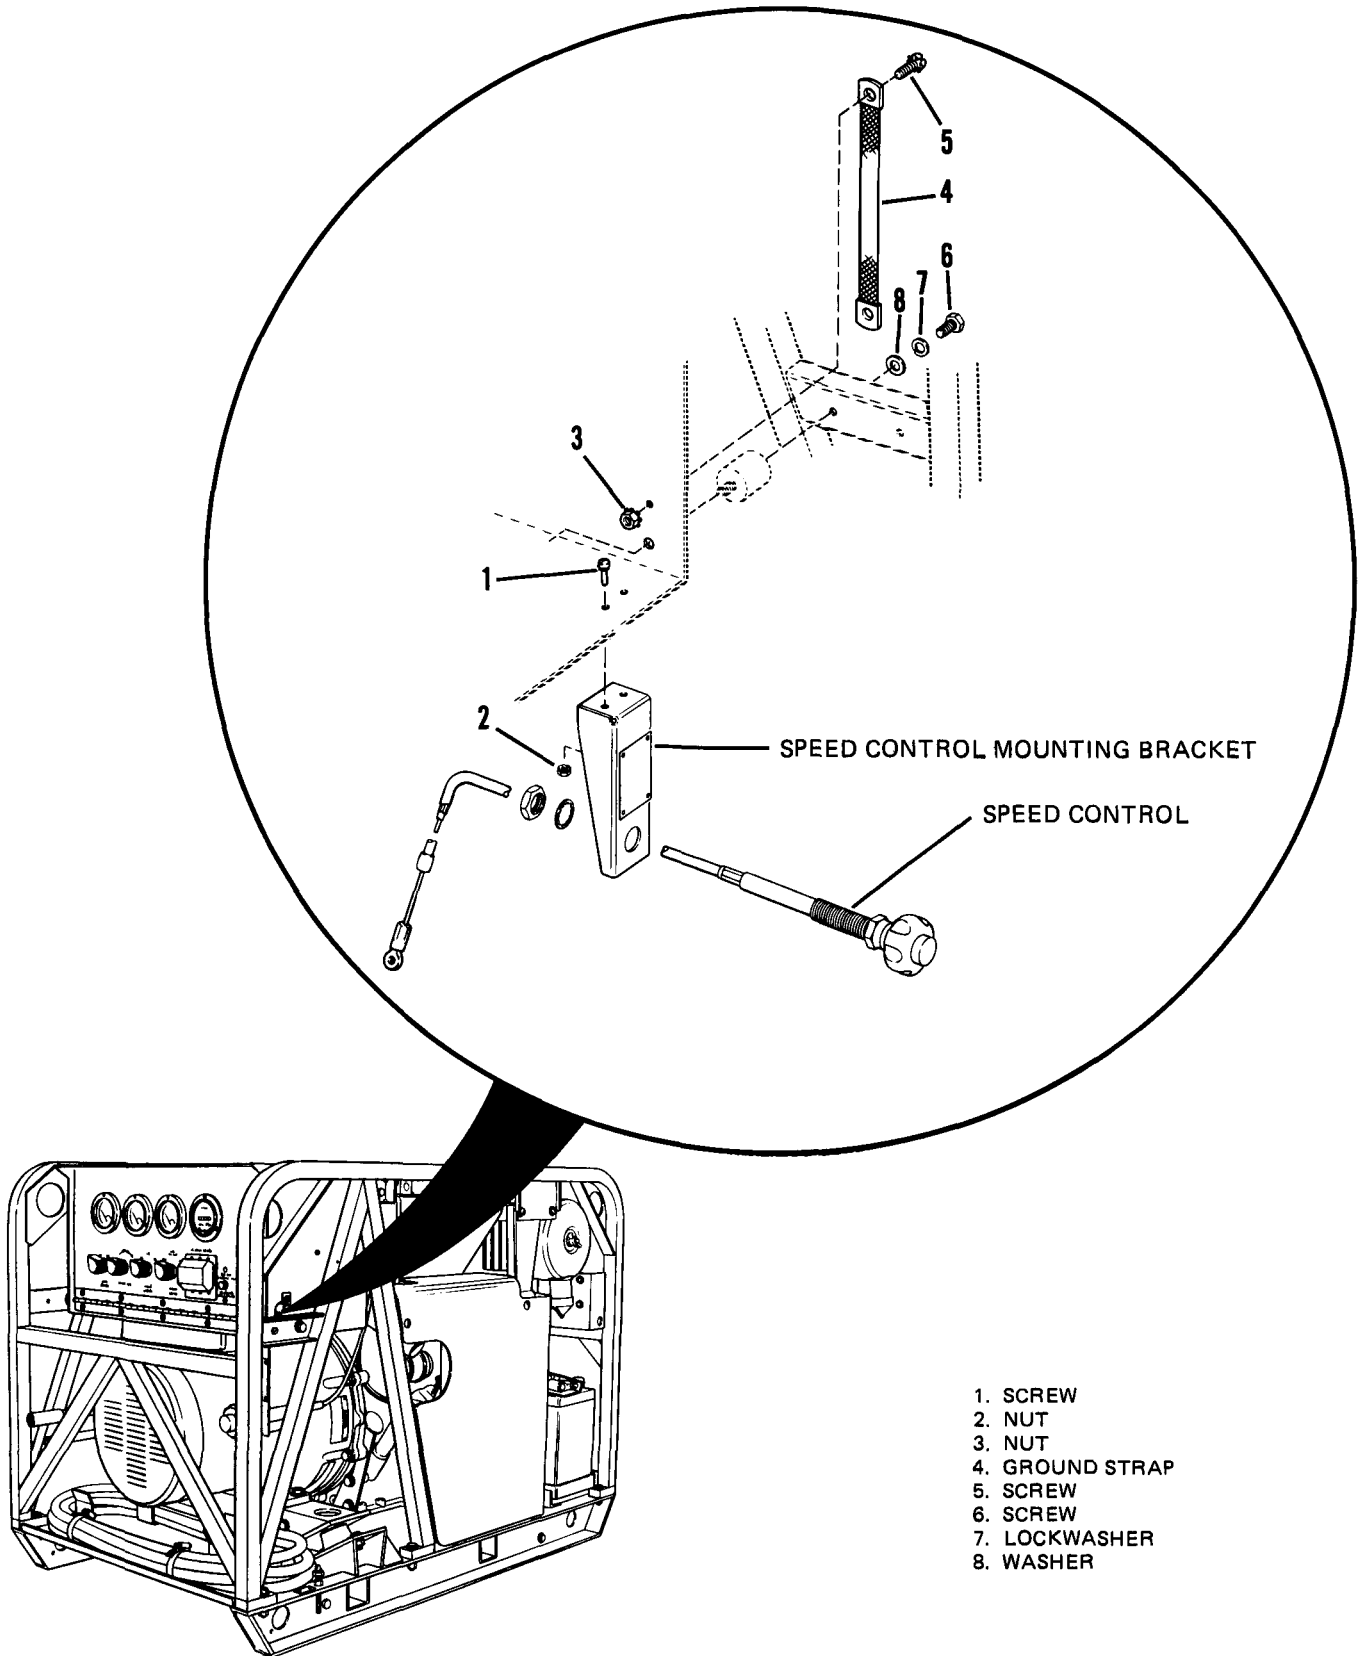
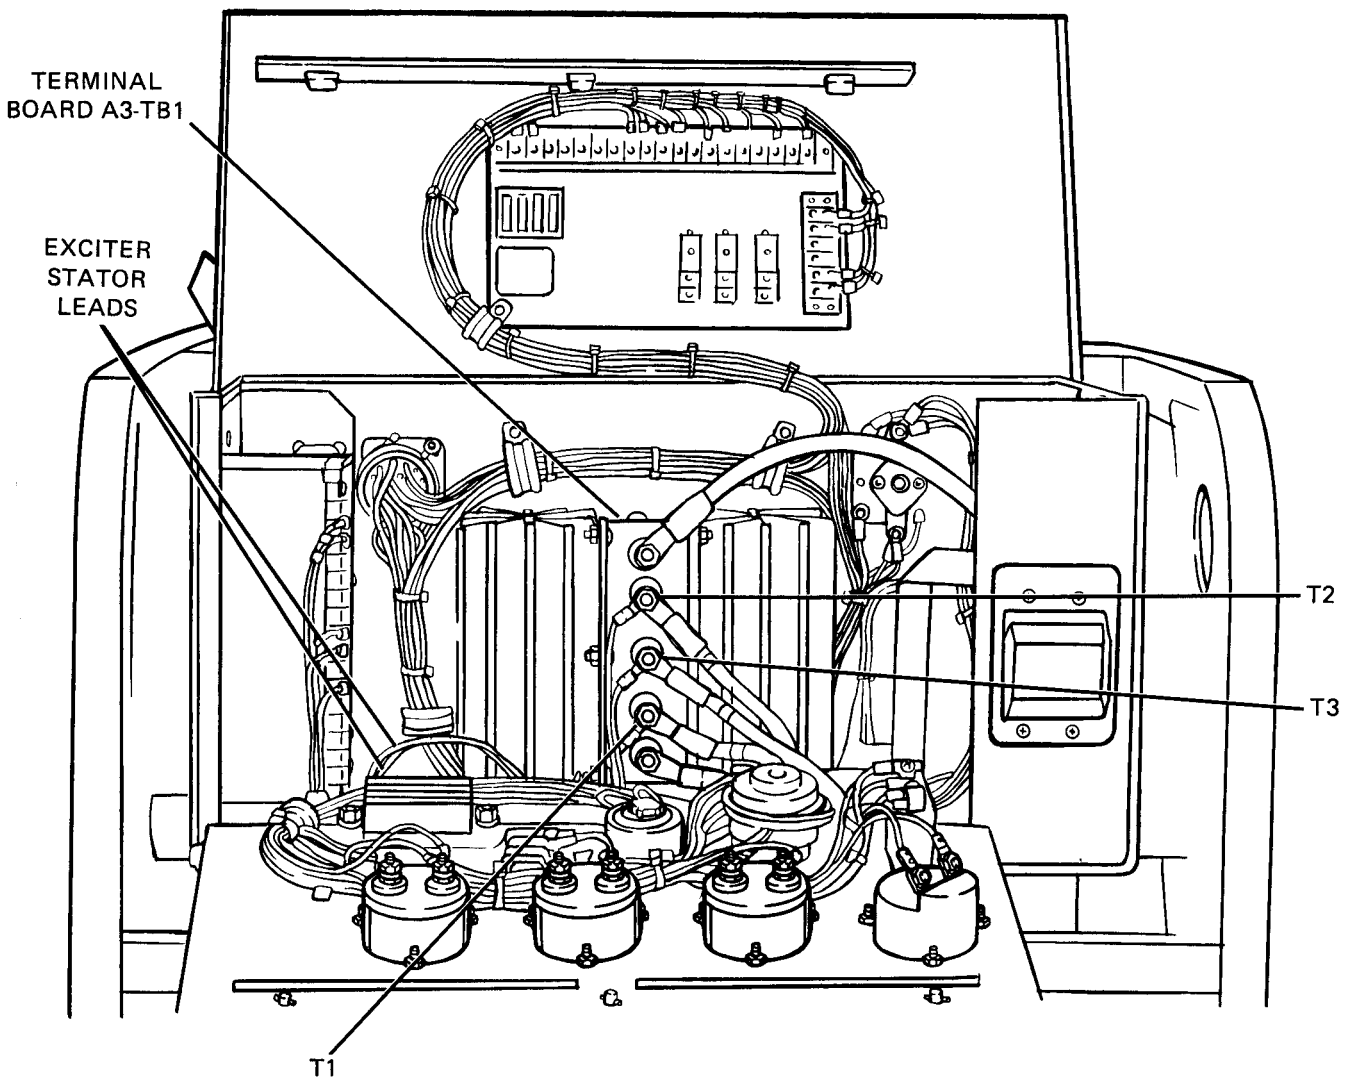
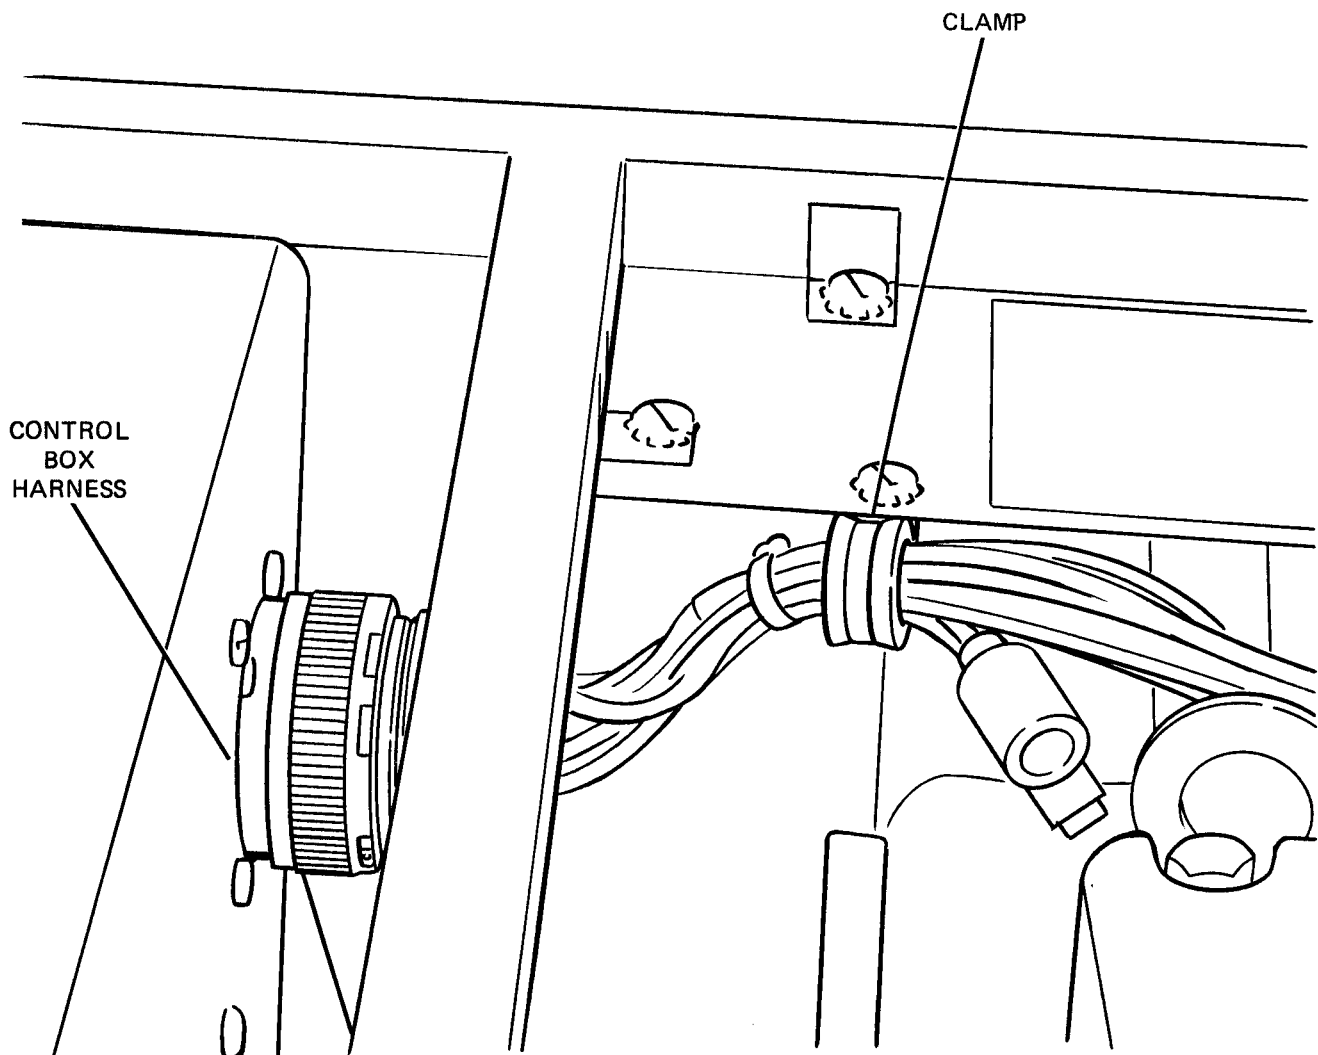

Figure 2-1. Control Box Removal and Installation.
Figure 2-2. Generator Wiring MEP-026B.
Figure 2-4. Control Box Harness.
Figure 2-1 shows the Model MEP-016B Control box. Models MEP-026B and MEP-021B (28VDC and 400 Hz) are similar.
- (2) Remove screws (1, Figure 2-1) and nuts (2). Remove speed control mounting bracket from bottom of control box.
- (3) Remove nut (3), ground strap (4), and screw (5).
- (4) Disconnect five generator leads (MEP-026B) and eight generator leads (MEP-016B and MEP-021B).
- 1 Tag and disconnect two exciter stator leads from terminals #1 and #5 of terminal board A3-TB1 (see Figure 2-2).
- (5) Remove four screws (6, Figure 2-1), lockwashers (7), and washers (8).
- (6) Loosen clamp and disconnect control box harness (Figure 2-4).
- (7) Thread generator wiring (five leads MEP-026B, eight leads MEP-016B and MEP-021B) through opening in bottom of control box.
- (8) Remove control box and cover generator opening to prevent entry of dirt.
- (1) Remove cover from generator.
- (2) Place control box in position on frame. Thread generator wiring (five leads MEP-026B, eight leads MEP-016B and MEP-021B) through opening in bottom of control box.
- (3) Secure control box to frame with washers (8, Figure 2-1), lockwashers (7), and screws (6).
- (4) Connect generator wiring to control box terminal boards using tags as lead identification.
- (5) Secure ground strap (4) with screw (5) and nut (3).
- (6) Connect speed control mounting bracket to bottom of control box with screws (1) and nuts (2).
- (7) Connect control box harness to back of control box and tighten clamp (Figure 2-4).